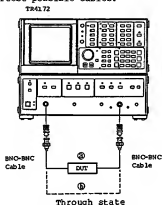

Fig. 6-7 Measuring system setup
- (1) As shown in Figure 6-7, insert a DUT (filter) between the TR4172 TRACKING GENERATOR OUTPUT connector and the INPUT connector. This state of connection is called (a). The state of the two connectors being kept through with the DUT removed is called (b).
- (2) In general, various types of SAW filter are available with input/output impedance of 50  $\Omega$ , 75  $\Omega$ , 200  $\Omega$ , 300  $\Omega$ , 1k $\Omega$ , and more than 1 k $\Omega$ . Before measurement, use an appropriate measure to obtain impedance matching between the SAW filter and the instrument. A schematic diagram of the recommended matching network can be obtained from the manufacturer of the filter.
- (3) A saw filter usually has a 20 dB insertion loss. To compensate for this loss, some filters contain an amplifier. If a filter with a self-contained amplifier is to be used, note the maximum output level of the tracking generator.
- (4) Use the shortest possible cables.
- ① Set up the center frequency, sweep span, input condition, and other necessary parameters.
- ② Remove the DUT from the connection cable to place the TR4172 TRACKING GENERATOR OUTPUT connector and the INPUT connector in a through state as indicated by b in Figure 6-7.
- ③ Press the kHz (G.D. OFFSET) key to obtain a flat phase response. If fine adjustment is required, press the kHz key again to select the G.D. OFFSET FINE mode and perform fine adjustment.
- ④ Press the MHz (G.D. OFFSET) key to position the phase response trace to the center of the vertical scale.
- ⑤ Connect a filter in the through state as indicated by a in Figure 6-7, then press the PHASE key; the phase response of the DUT (filter) will be displayed. Display resolution can be increased with the DATA knob or DATA step keys (80, 40, 20, 8, ... 0.2 deg/div.).